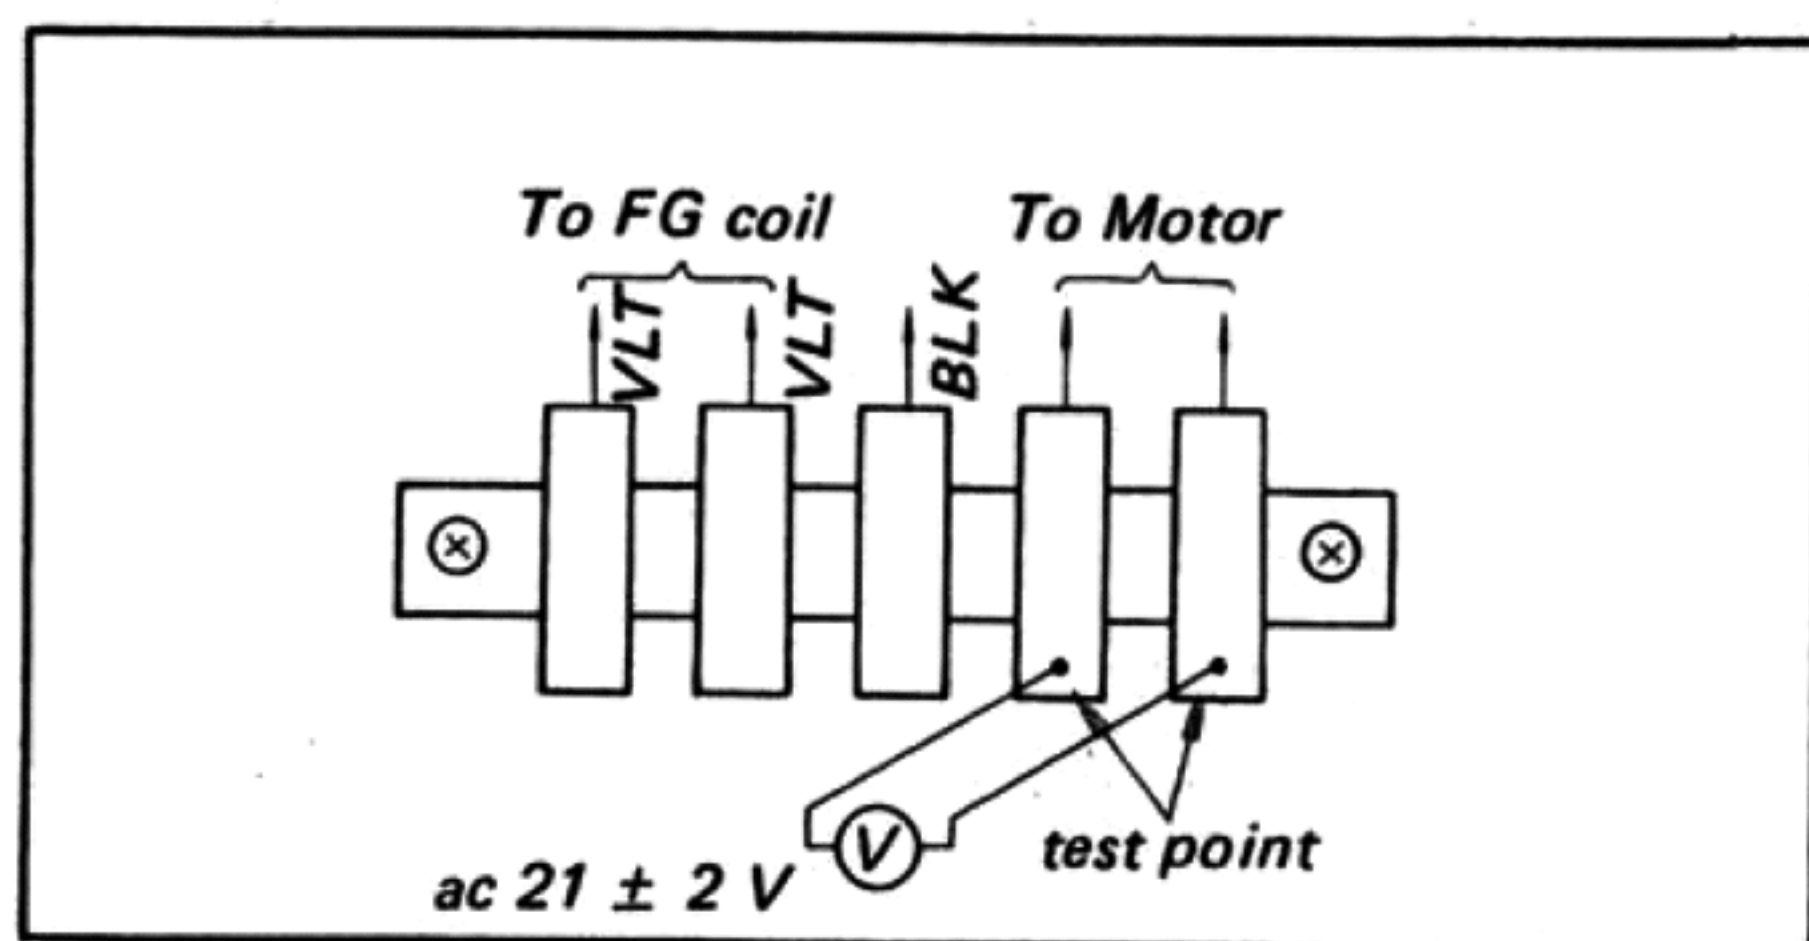

Fig. 2-8. Test point for electromagnetic brake adjustment
- 2. Set the turntable for 33 1/3 rpm operation, and then measure the voltage applied to the motor at the 5-P terminal strip as shown in Fig. 2-8. It should be within the limits of 21 ± 2 volts ac. If not, readjust the clearance between the turntable and the magnet by replacing the spacer as previously described.